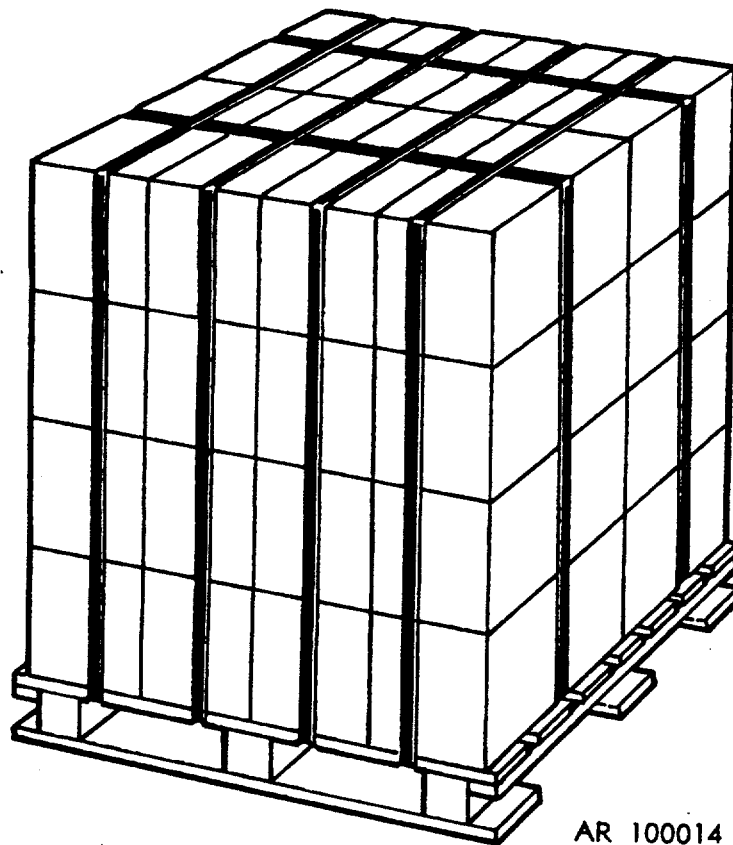

Figure 4-12. Typical Palletization.
- (1) Steel strapping, 1-1/4 inches wide, length as required.
- (2) Seals for 1-1/4 inches steel strapping.
- (3) Strapping and sealing kit, 1-1/4 inches.
- (4) Personal safety equipment as required by TM 9-1300-250 and TM 9-1300-206 (goggles, gloves, shoes, etc.).
- d. Install strapping, one strap per row of boxes as shown on figure 4-12 as follows:
- (1) Cut pieces of strapping in lengths sufficient to completely encircle boxes and pallet with approximately 8 inches overlap
- (2) Position one strap under pallet
- (3) Insert one end of strap into strap stretch so that strap is held firmly by stretcher, with approximately 3 inches of strap protruding
- (4) Place seal over strap end
- (5) Thread loose end of strap through seal and into stretcher bead.
- (6) Tighten strap by repeated movement of ratchet lever until edges begin to cut into boxes.
- (7) Using banding crimper, crimp seal in two places.
- (8) Release locking panel on stretcher and slide stretcher out.
- (9) Cut off excess strapping.
- (10) Repeat procedures outlined in (2) through (9) above for each strap.